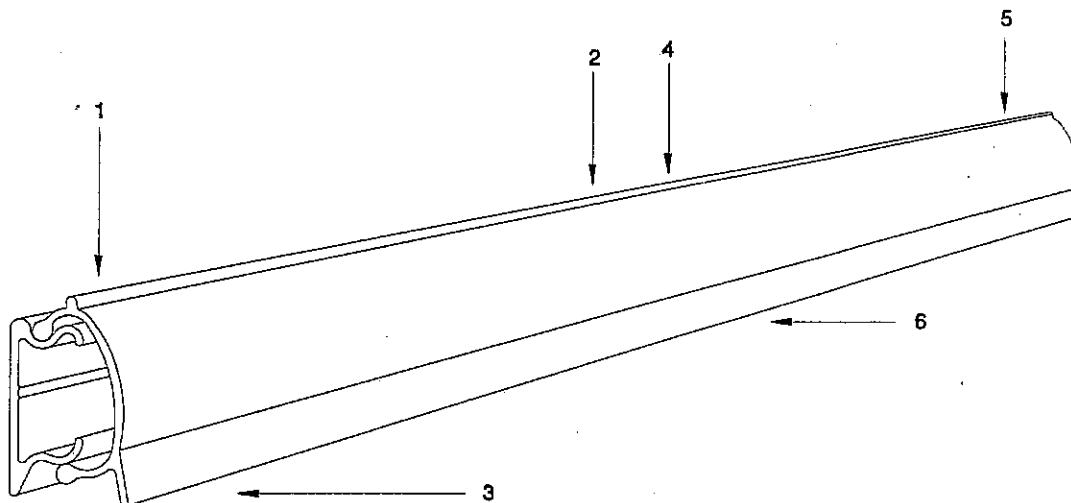

FIG. 10
4. SEE FIG. 10 FOR THE PROPER USE OF THE RUBBER Mallet. THE NUMBERS 1-6 SHOW THE PROPER POSITION AND SEQUENCE OF STRIKES THE RUBBER Mallet SHOULD MAKE TO PROPERLY SEAT UPPER BEAD IN DEEP GROOVE (1, 2, 4, 5) AND SNAP CLIP INTO HOLDING POSITION (3, 6).
SNAP KWIC-KLIP CAP ONTO BASE USING RUBBER Mallet. FOLLOW STRIKING SEQUENCE SHOWN IN FIG. 10.